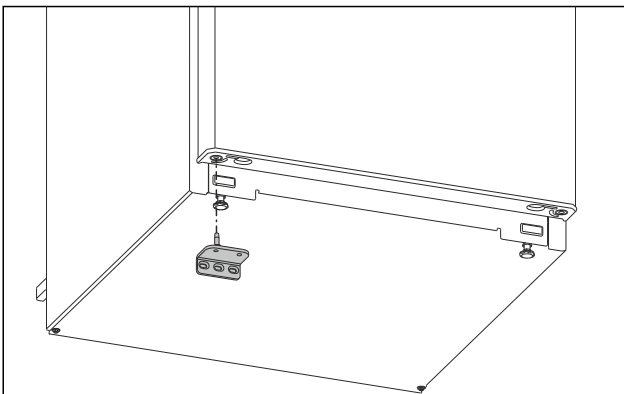

Fig. 14
- ▶ Insert the lower swap bearing block on the opposite side. (see Fig. 14)